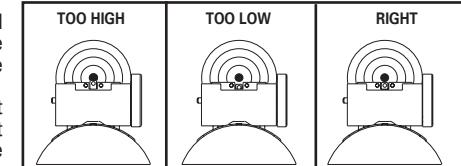

Fig. 7
- The air rifle is correctly aimed when the front sight is positioned exactly in the notch of the rear sight. The top of the front sight blade should be even with the top of the notch in the rear sight. The bull's-eye should appear to rest on the top of the front sight (Fig. 7).